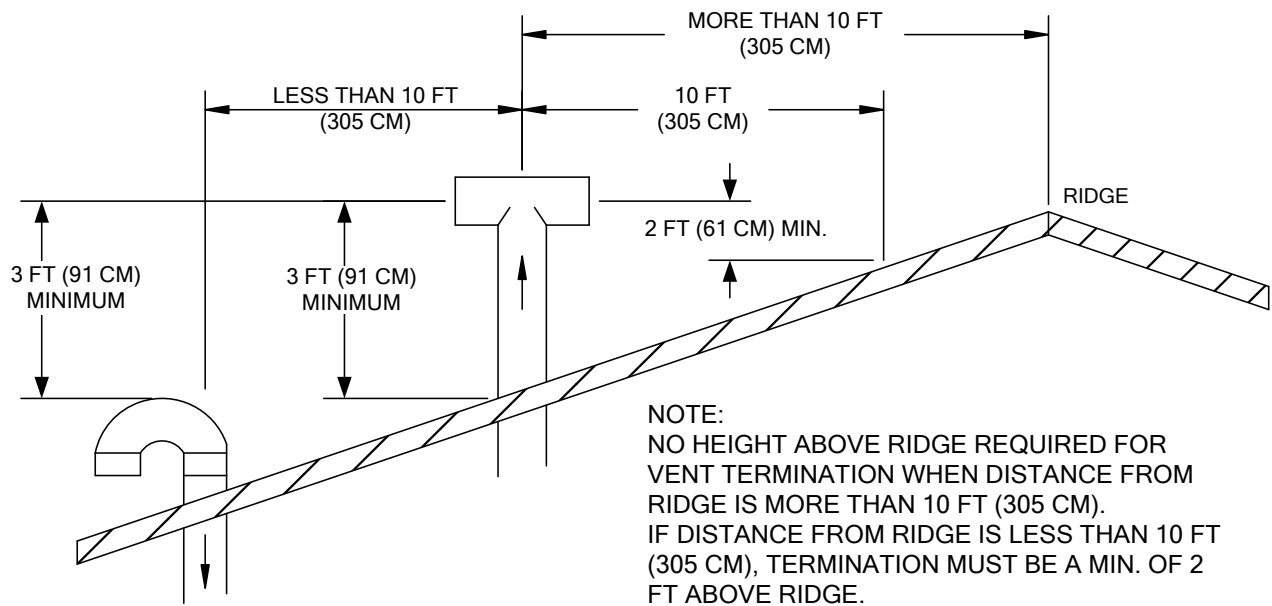

Figure 20: Vent Termination Locations
- b. Combustion air inlet must be 3 ft. below any vent outlet, within 10 ft. See Figure 20.
- d. Combustion air inlet must also face away from the vent outlet. See Figure 20.